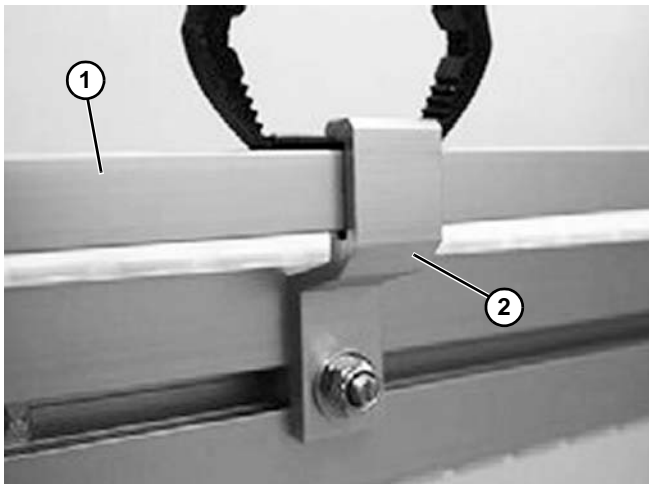

Figure 98
2. Attach the guide rail (**Figure 98, item 1**) to the bracket (**Figure 98, item 2**). Clamp the spring pin into the slot between bracket and guide rail to the fixed position.